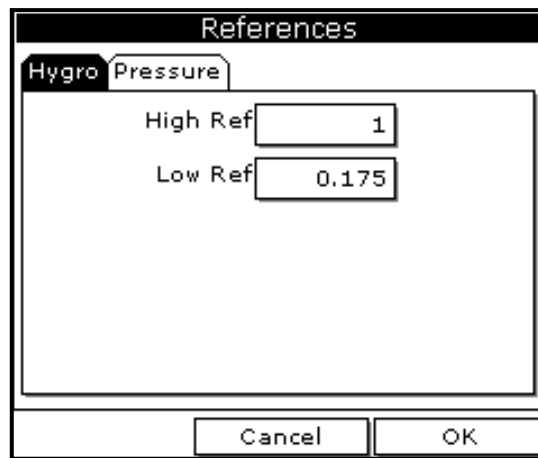

Figure 30: References Window
3. Use the arrow keys to scroll to References and press **[ENTER]**. The screen appears similar to *Figure 30*.